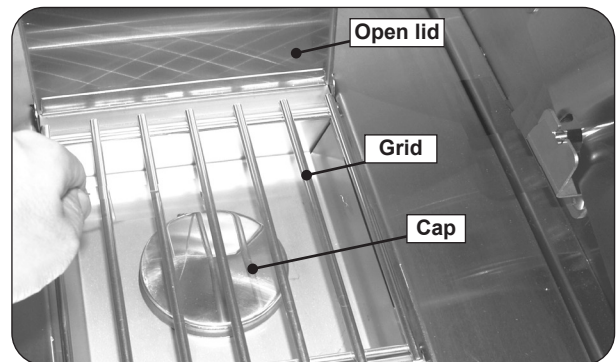

Fig. 28-2 Place burner cap and grid
5. Place the burner cap on top of the burner, as shown in Fig. 28-2.
6. Place the grid so that it rests on the front and back lips of the sideburner opening (Fig. 28-2).